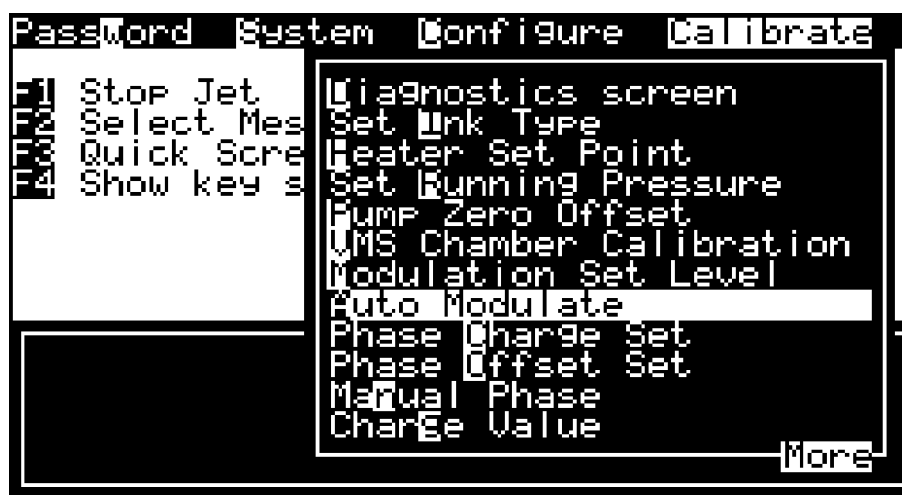

Fig 11.81 Auto Modulate
- 132.1 Select the Calibrate menu and highlight Auto Modulate as shown in Fig 11.81.